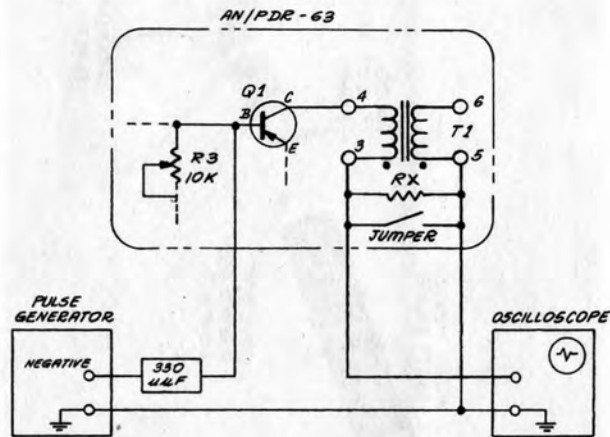
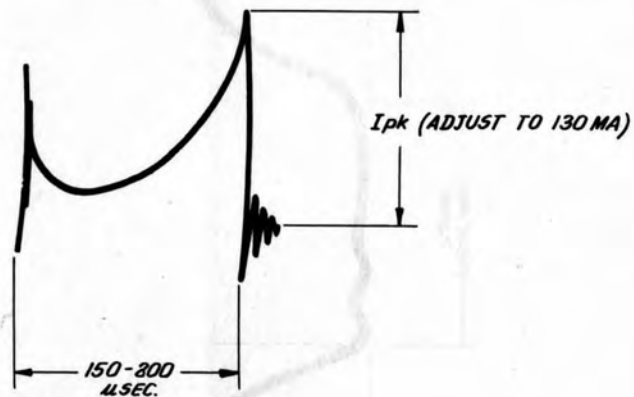

Figure 5-8. Test Set-up for Adjustment of 1A1R3
Figure 5-9. Transistor 1A1Q1 Collector Current Waveform
- (1) Open unit as in paragraph 5-3a.
- (2) Unsolder one end of shorting jumper across Jx and Tack solder 1 ohm across Rx (Figure 5-8).
- (3) Connect the test equipment as shown in Figure 5-8. Set the Pulse Generator to zero or minimum amplitude at a frequency of 60 pps. Set the Oscilloscope for 50 mv/cm vertical sensitivity and 50 microsecond/cm horizontal sweep.
- (4) Turn the Range Switch to 1000 rad/hr.
- (5) Starting from zero, slowly increase the generator pulse amplitude until the radiac meter reads upscale. The meter should indicate between 100 and 200 rad/hr.
(6) The waveform on the oscilloscope should be as shown in Figure 5-9. If not, adjust 1A1R3 for a peak current of 130 ma (130 mv on the scope).
(7) Turn the Range Switch to OFF remove Rx and resolder jumper Jx.
(8) Reassemble unit.
(9) Source Calibration - Using an AN/UDM-1 or 1A or any equivalent calibrator of suitable strength to produce 100 r/hr at one meter, align the high range unit such that the long axis of the ion chamber is at right angles to the beam of radiation (meter up and range switch knob side toward source).